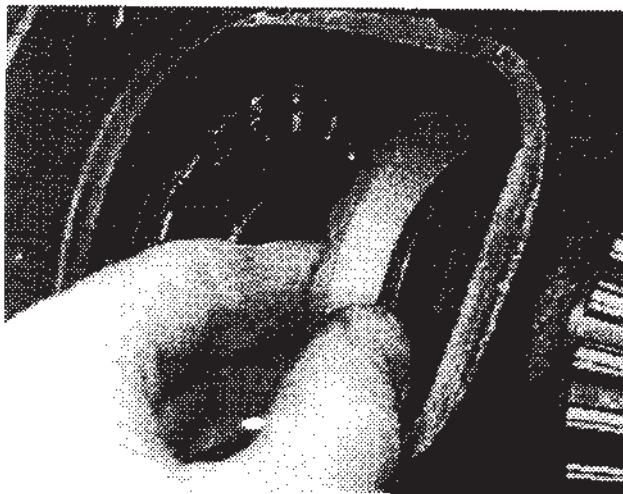

Figure 7
1. Install a coupler and washer assembly in the ring gear end of the differential case. See **Figure 7**. Note that the couplers in some models may have flats for clearance.
2. Place the second coupler and washer assembly into the other end of the differential case (**Figure 7**).